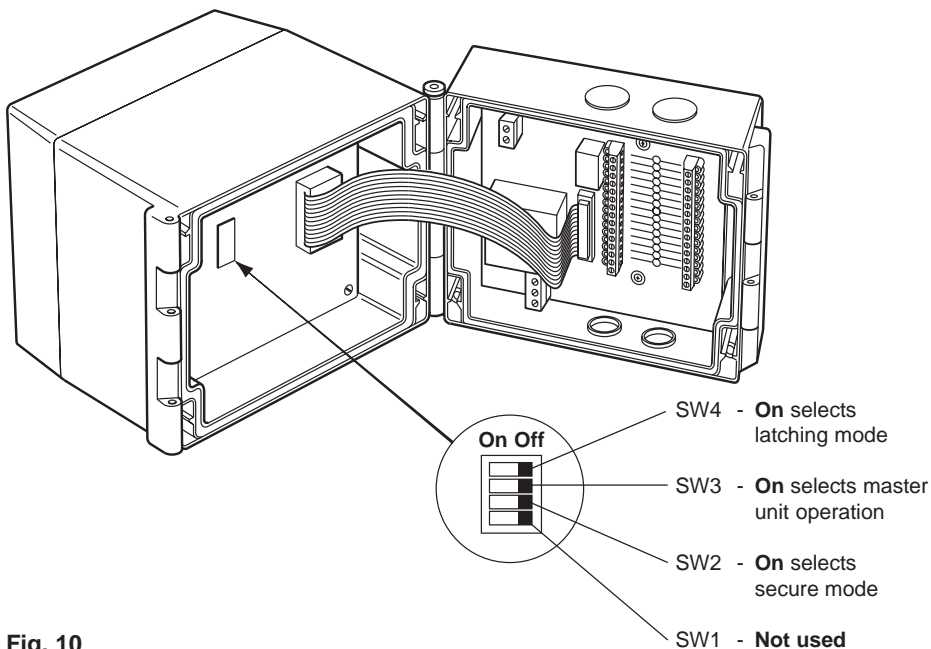

Fig. 10
There are three modes of operation which can be set using the switches housed inside the R16C monitor (see Figure 10).
The Latching Mode is selected by moving switch SW4 to the 'On' position (see Section 4.1, Figure 10). When the R16C monitor is operating in Latching Mode the **Latching light (G)** is illuminated.
The Secure Mode is selected by moving switch SW2 to the 'On' position (see Section 4.1, Figure 10). In the Secure Mode the operation of the unit is unaltered. **Key 1** can be pressed to test the R16C and key 2 can be pressed (if Latching Mode has been set) to acknowledge a previously failed trap. However, any attempt at setting up via the keypad (see Section 4.6) will be ignored and the **Secure mode light (J)** will illuminate.
The Master Unit Mode is selected by moving switch SW3 to the 'On' position (see Section 4.1, Figure 10). In Master Unit Mode the R16C monitors the relay output (PL2) of a number of R16C slave units.